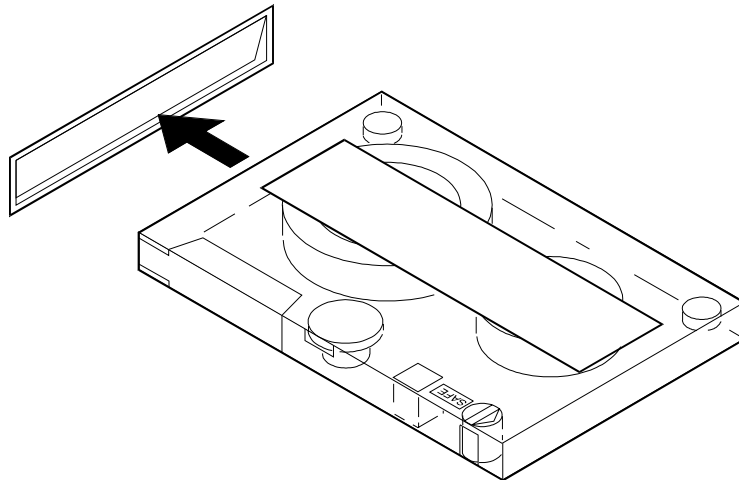

Figure 2-7. Inserting a Cartridge Tape Into An Inward-Hinged 525-Mbyte Tape Drive
- If the tape drive has a door that swings in toward the body of the tape drive (Figure 2-7):